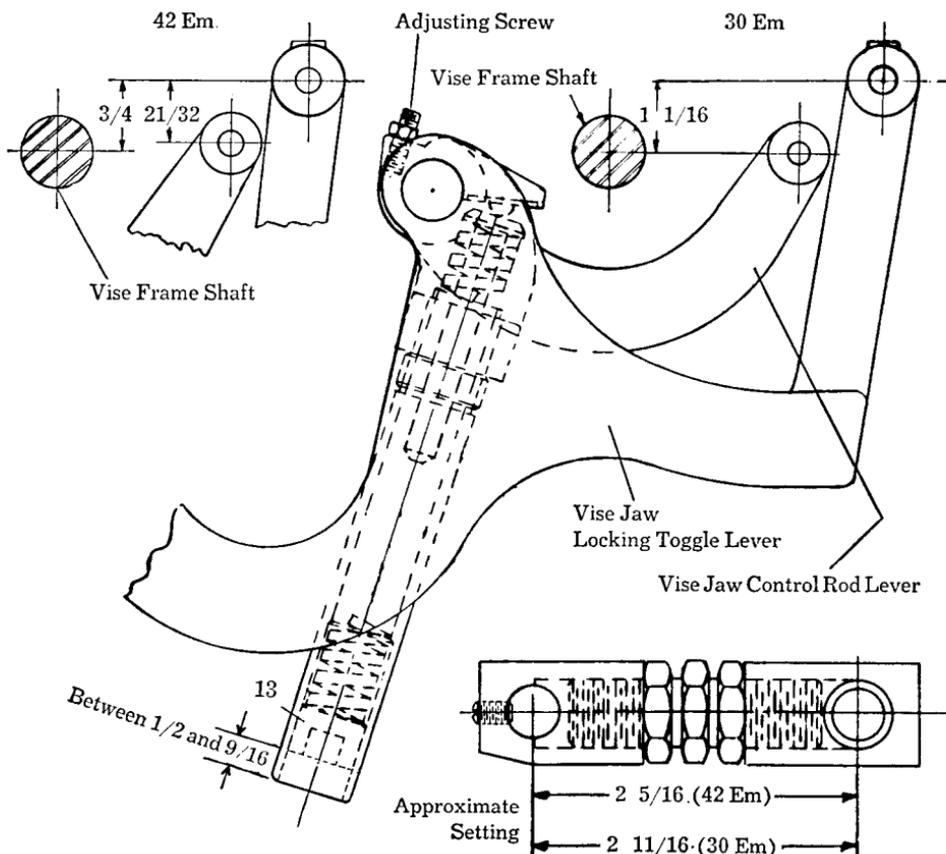
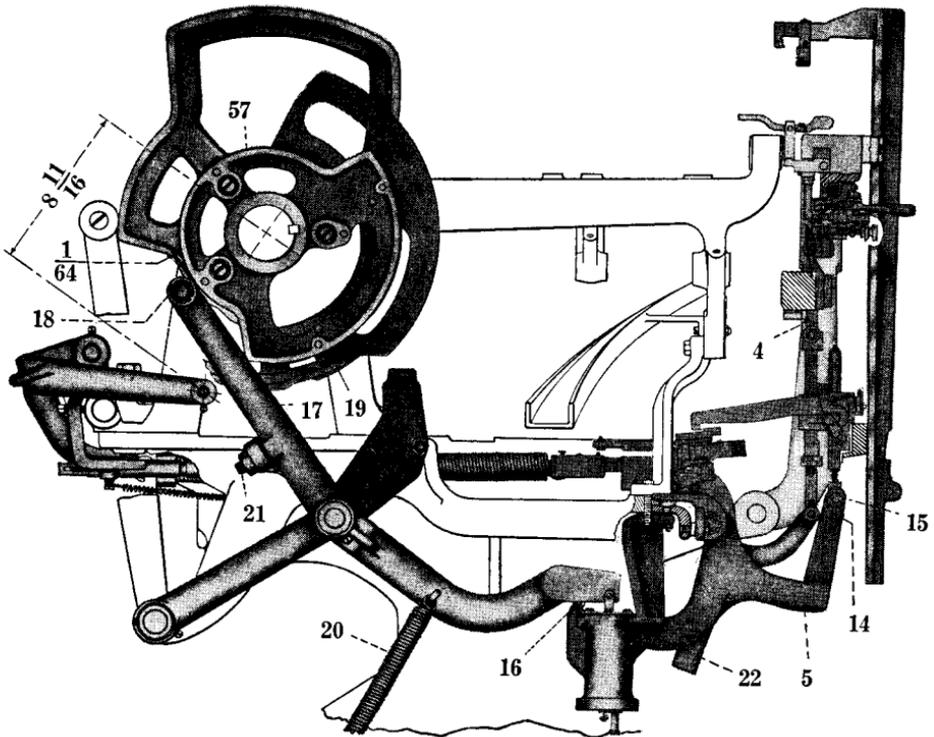
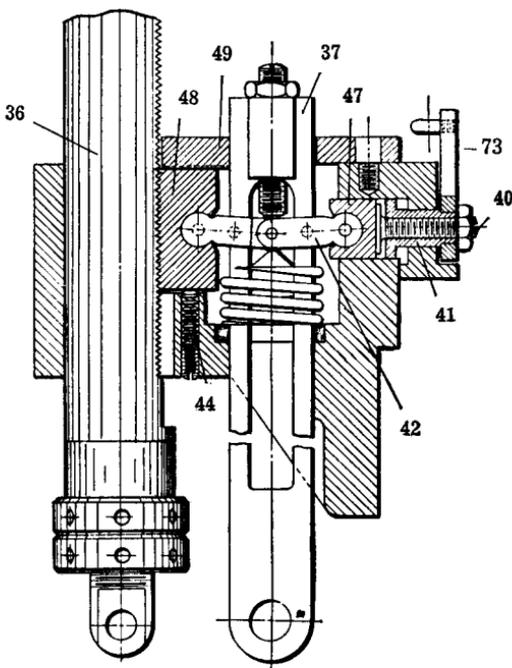
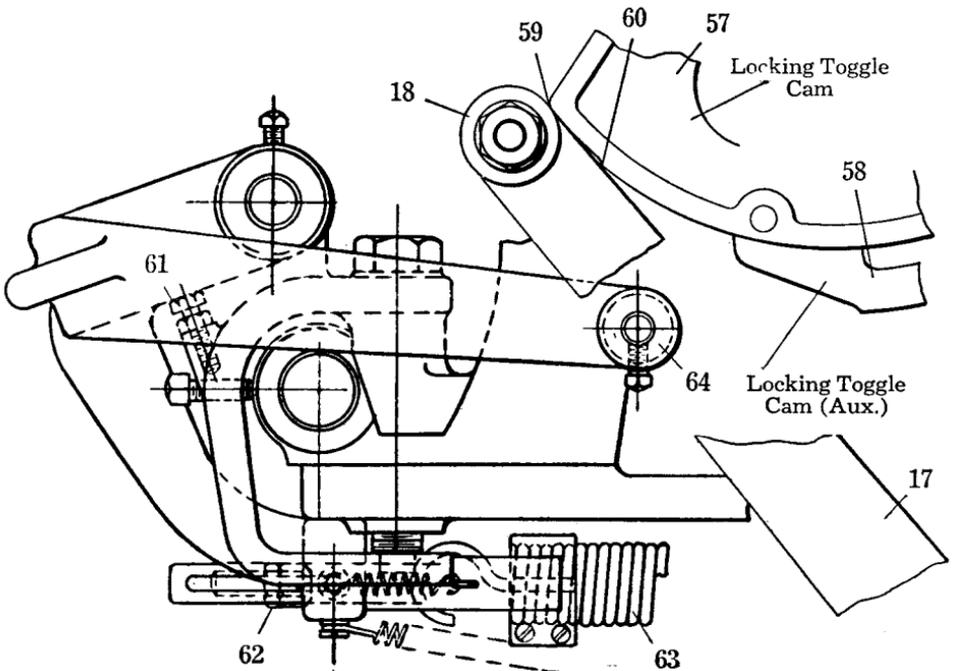

FIG. 3-32. View showing standard dimensions of vise jaw locking toggle, vise jaw control rod lever and locking toggle slide connecting block.
FIG. 4-32. Side view of the Self-Quadder mechanism.
FIG. 11-32. View of toggle lock mechanism in the locked position.
FIG. 13-32. View of the locking toggle and auxiliary locking toggle cams and levers.
**Toggle Lever and Connecting Block**—The distance between centers of studs on vise jaw control rod lever and vise jaw locking toggle lever must be set as indicated in Fig. 3-32, and this distance is obtained by the adjusting screw. The spring nut 13, should be adjusted as indicated.
To test for proper height of control rod, set selector handle at left-hand quad and move the right-hand jaw back and forth. The end play should be about .010 of an inch. To adjust the control rod to obtain this end motion, readjust the screw 16, Fig. 4-32, located on top of the air cushion cylinder bracket.
control rod is not raising high enough. This may be due to the  $1\frac{1}{8}$ " dimension between centers of studs of vise jaw locking toggle lever and vise jaw control rod lever, being off. This can be corrected by adjusting screw as shown in Fig. 3-32.
With the machine in normal position, turn screw 21, Fig. 4-32, until the cam roll 18 is about  $\frac{1}{84}$  of an inch from the cam. Also adjust screw 4 until it just clears the cross member of the vise frame.
To position the selector handle to coincide with the movement of the jaws, depress the lever 5, Fig. 4-32, which is below the left-hand galley bracket. This causes the control rod to travel downward. Observe the movement of the vise jaws as the control rod travels downward. Shift the selector handle so that the indicator plate reading coincides with the movement of the jaws. Then allow control rod to return to normal position.
The slide 37, Fig. 10-32, continues to travel downward until adjusting screw 38 in the slide contacts roll 39, pushing it slightly below a horizontal position or below center, as shown in Fig. 11-32. This causes the front shoe 47, Fig. 11-32, to slide back until it banks against adjusting screw 40, which then forces the back shoe 48, which has serrations on it, to engage with sleeve 36, which also has similar serrations.
At this point adjustable shoe 50, Fig. 12-32, engages hook end of link 52, and by action of the auxiliary cam 58, Fig. 13-32, through associated mechanism and spring 63, forces cam 53, Fig. 12-32, to contact fixed roller 54, resulting in a downward motion of shoe guide 55. This action causes serrated block 48, Fig. 11-32, which is engaged with sleeve 36, to be forced down thus applying extra pressure of the vise jaws against the line of matrices. This assures a tight line.
*The Unlocking Action*—Shortly after the cast, the cam roll 18, Fig. 13-32, leaves the cam 57 and the auxiliary roll 64 also leaves the auxiliary cam 58.
This combined action permits the lever 5, Fig. 4-32, to rise until adjusting screw, Fig. 3-32, comes in contact with the vise jaw control rod lever allowing toggle slide 37, Fig. 11-32, and shoe 48 to rise since the pressure has been relieved.
The spring 20, Fig. 4-32, aids in raising control rod and serrated shoe 48, Fig. 11-32.
This position of the locking mechanism is maintained until the first elevator jaw has lifted clear of the vise jaws at which time the releasing latch 64, Fig. 14-32, which is attached to the first elevator slide, contacts releasing lever 73, Fig. 14-32, which revolves cam 41, Fig. 11-32, to its lowest position. This relieves the pressure on front shoe 47, thus permitting the arm 42 to snap up. This in turn withdraws the back shoe 48 from the sleeve 36. The control rod is then free to move upward and return vise jaws to normal position.
*To adjust Shoe 50, Fig. 12-32*—Adjust screw 61, Fig. 13-32, until the center of shaft for roller 64 is  $8\frac{1}{8}$  inches from the center of the main cam-shaft. This is shown in Fig. 4-32. Then adjust shoe 50, Fig. 12-32, so that there is approximately  $\frac{1}{8}$  to  $\frac{3}{8}$  inch between lever 52 and shoe 50, as shown at 56.
Adjust nut 62, Fig. 13-32, so that the slack in spring 63 is removed. Spring 63 should not be under tension.
between control rod lever and locking toggle lever, shown in Fig. 3-32, is correct.
With selector handle set for "L.H. Quad." allow machine to revolve until cam roll 18, Fig. 13-32, rests on point of cam 57 at 59, and stop machine at this point. Remove slide guide 43, Fig. 10-32. Back off adjusting screw 38, Fig. 10-32, until it clears roll 39. Back off screw 40 about a full turn.
Next, turn adjusting screw 40, Fig. 11-32, in clockwise manner as far as it will go. This will cause shoe 48, Fig. 11-32, to engage in serrations in control rod sleeve. Replace slide guide 43, Fig. 10-32. See that all lock nuts are tightened. Back the cams up until machine is in normal position. Release the latch 73, Fig. 16-32, to allow control rod to return to normal position.
**CAUTION:** The vise should never be opened when the cam roll 18, Fig. 13-32, is on the point of the locking toggle cam 57 as shown at 59, unless the toggle locking mechanism is released by manually operating the release lever 73, Fig. 16-32. When the cam roll 18 is at point 59, the toggle lock is engaged and any attempt to open the vise without releasing the toggle lock may result in serious damage to the mechanism.
Remove slide guide 43, Fig. 10-32, and slide guide 49, Fig. 11-32.
To back up machine, if roll 18, Fig. 13-32, is in pocket of cam 57, hold lever 17 toward rear of machine so that roll is free from cam.
*Lowering Vise to Second Position to Remove Mold Disk from Machine—* Advance machine to let first elevator down on vise cap. Then loosen screws in levers 14 and 15, Fig. 4-32, and remove studs. The vise can now be lowered into second position to remove mold disk and slide. In replacing be sure that screws in the levers are tightened down on the studs. It is important that these levers be disconnected when lowering vise to second position to prevent breakage and change of adjustment.
A special shoe 19, Fig. 4-32, has been applied to the justification cam to overcome tendency of the first justification lever to move upward slightly when cams return to normal position. This insures the stop lever 75, Fig. 16-32, swinging freely into the slot of the justification collar 80 at all times.
With selector handle set for "L.H. Quad." allow cams to revolve until cam roll 18, Fig. 13-32, reaches point of cam 57. This is at point 59. Stop cams at this point.